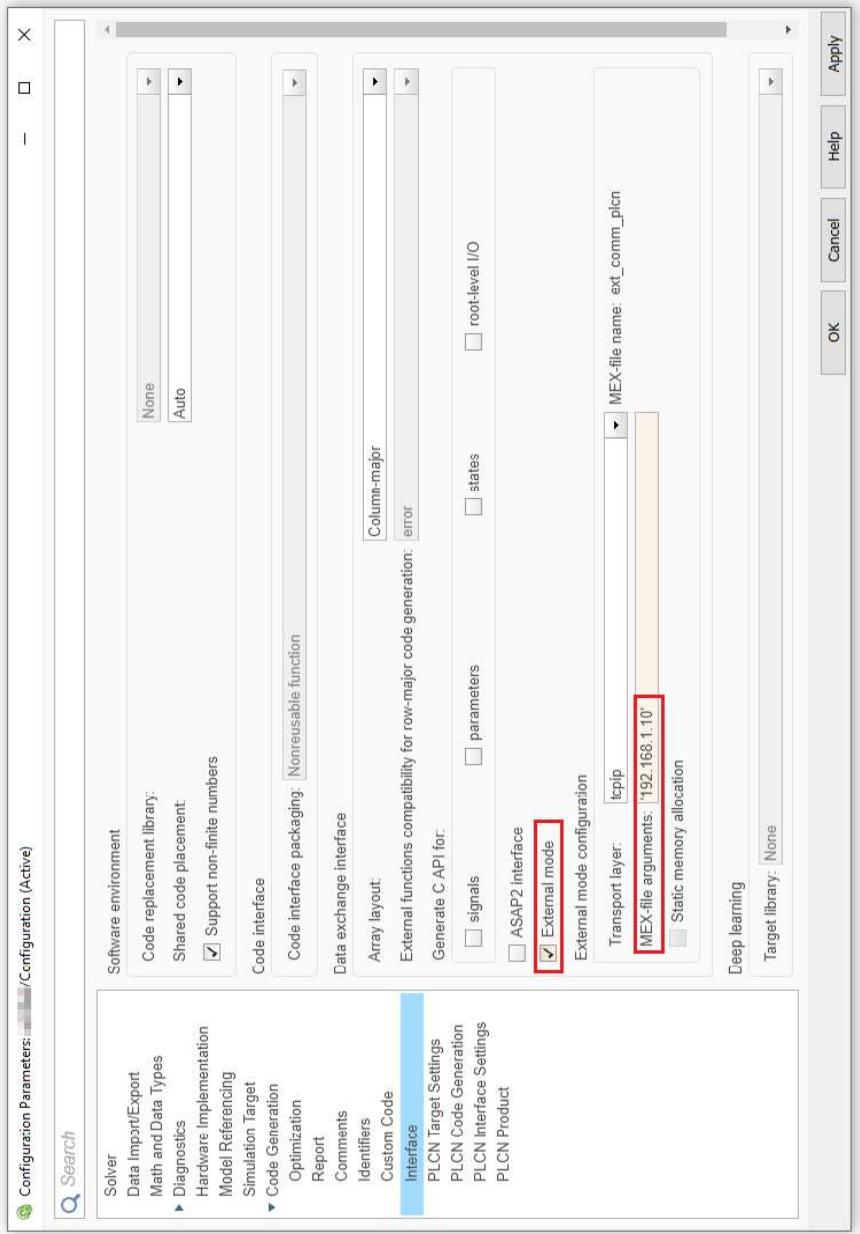

Figure 11-1 “Interface” configuration page
- Enable the "External mode" check box (see Figure 11-1).